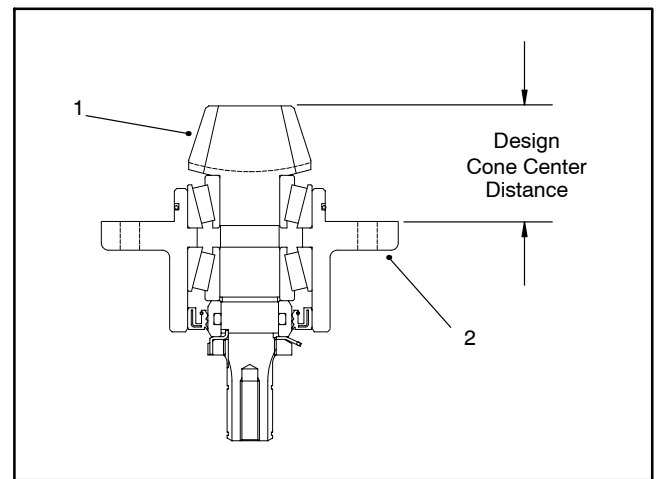

Figure 30
8. Use a depth gauge to measure the distance from the end face of the input shaft/pinion gear to the mating surface of the bearing case. Subtract the "Design Cone Center Distance" from this distance to determine initial shim thickness (Fig. 30).